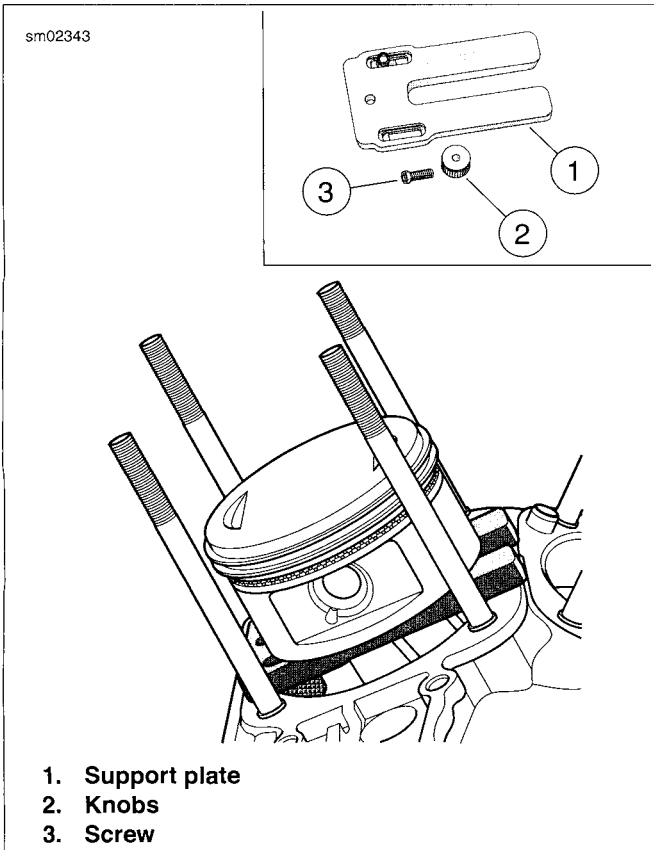
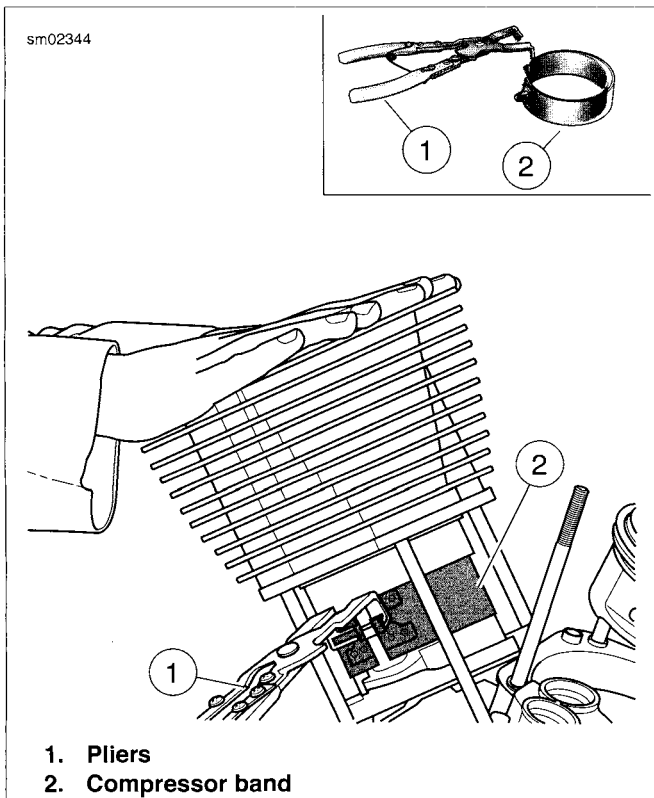

Figure 3-35. Piston Support Plate
Figure 3-36. Piston Ring Compressor
6. See Figure 3-35. Install the PISTON SUPPORT PLATE (Part No. HD-42322).
- a. Slide both adjustable knobs (2) on support plate (1) down away from forked end. Tighten knobs when contact is made with flats at end of slots.
7. See Figure 3-36. Install cylinder using PISTON RING COMPRESSOR (Part No. HD-96333-51F).
- a. Fit tabs on pliers (1) into slots of ring compressor band (2). The arrow stamped on the band indicates the side that faces up, so disregard the word "bottom". Place band around piston. Press the lever on the right side of the pliers to open the jaws for band expansion.